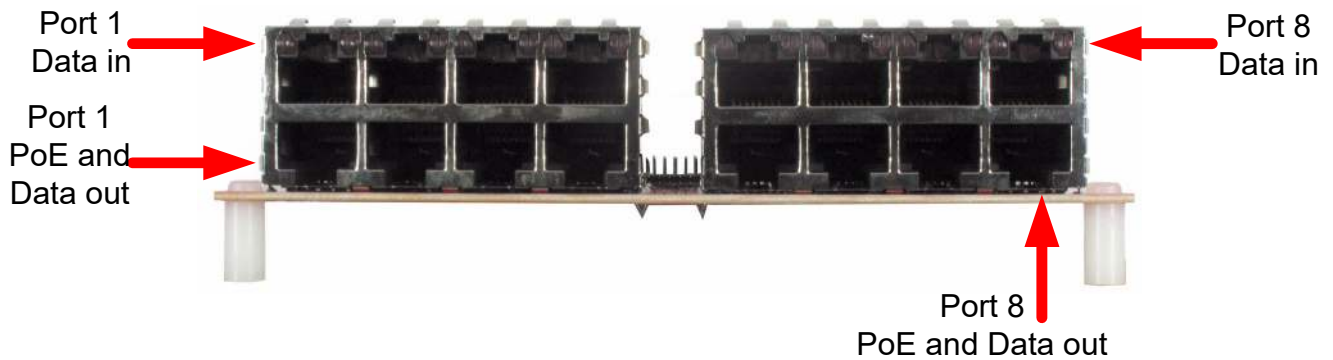

Figure 7. Connector Board Configuration
6. The Si3459 Evaluation Board is configured as a midspan power injector. The data input lines are on the top row, and the power plus data output lines are on the bottom row. See Figure 7. A Powered Device (PD) is plugged into the bottom row.